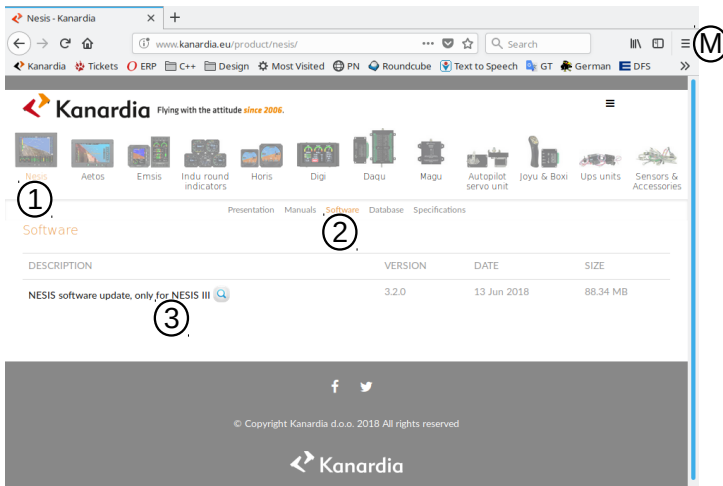

Figure 43: Illustration of the Aetos software download page. Usually only latest update is available.
- ② Select *Software* next. This opens a page with Aetos specific software. An example is shown on Figure 43.
- ③ Click on the link to start download process of selected software file. Before downloading the software, a window appears asking for your email address. This is optional. Download will be completed also if address is not given.
1. Click on the ≡ menu symbol. See label (M) on Figure 43.